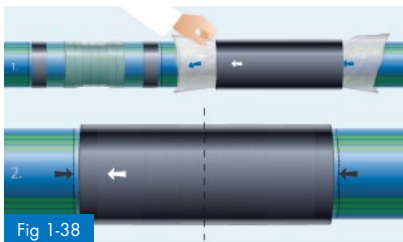
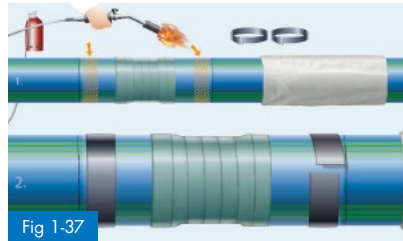

Fig 1-38
Fig 1-37
Step 2: Mechanical protection of the insulation layer using egeplast egeFit® shrinking sleeves (Figs. 1-37 up to 1-39)
Drying and cleaning of the shrink area. Preheat the pipe surface and apply the enclosed hot-melt adhesive, approx. 5 cm from the end of the shrinking sleeve on either side (Fig. 1-37). Subsequently remove the protective foil into a single direction. Align shrinking sleeve to the center and position above the weld seam (Fig. 1-38).